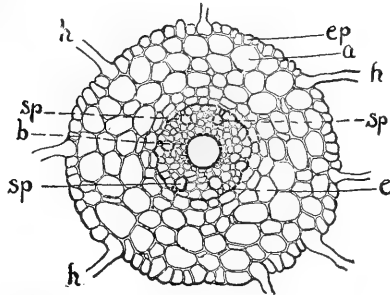

Fig. 55. Section of a root. (Andrew's Botany.)
- a. Magnified section, Fig. 55.